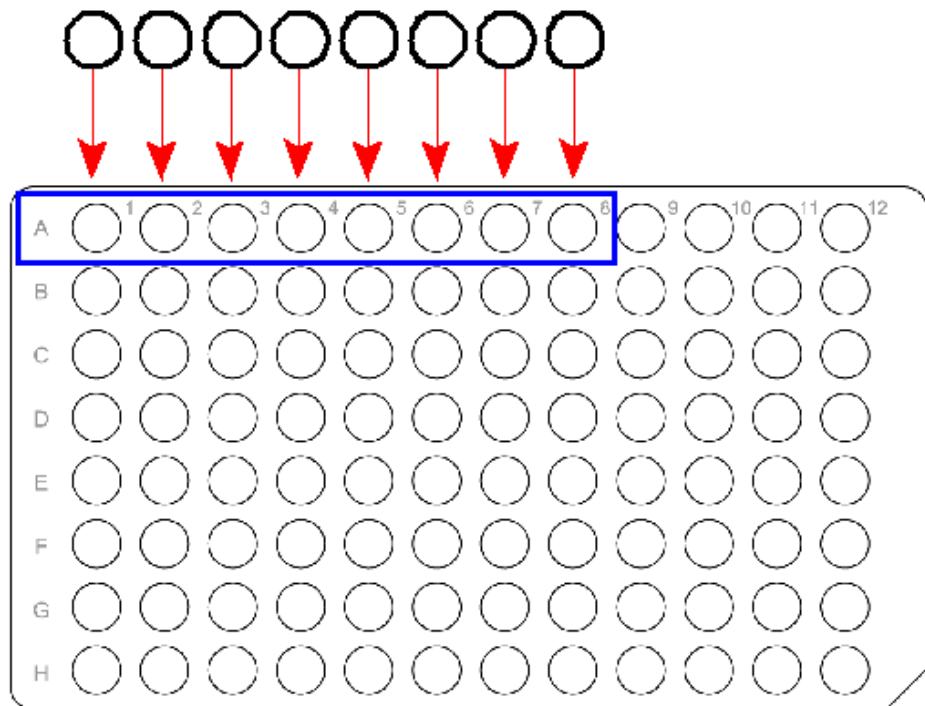

Figure 5 Addition of digestion master mix to samples.
6. Use multichannel P20 pipette and add $14.75 \mu\text{L}$ of the Digestion Master Mix to each sample in row A (Figure 5).